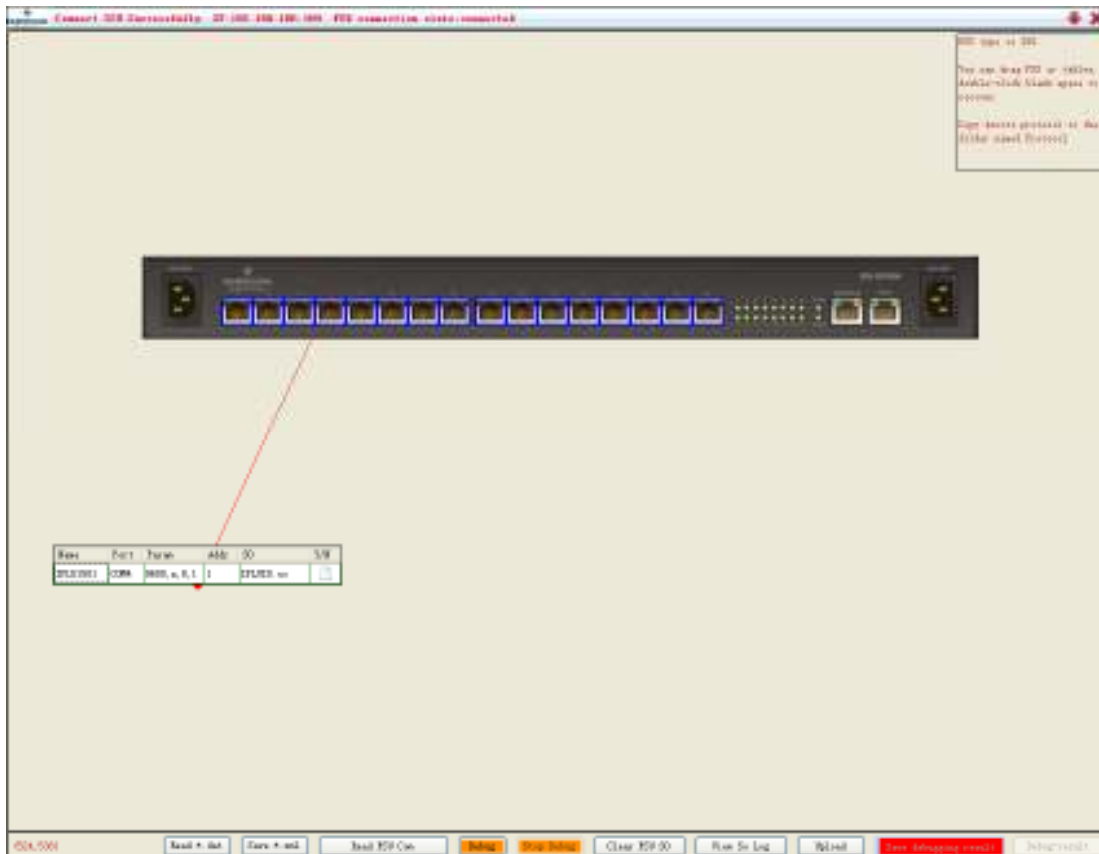
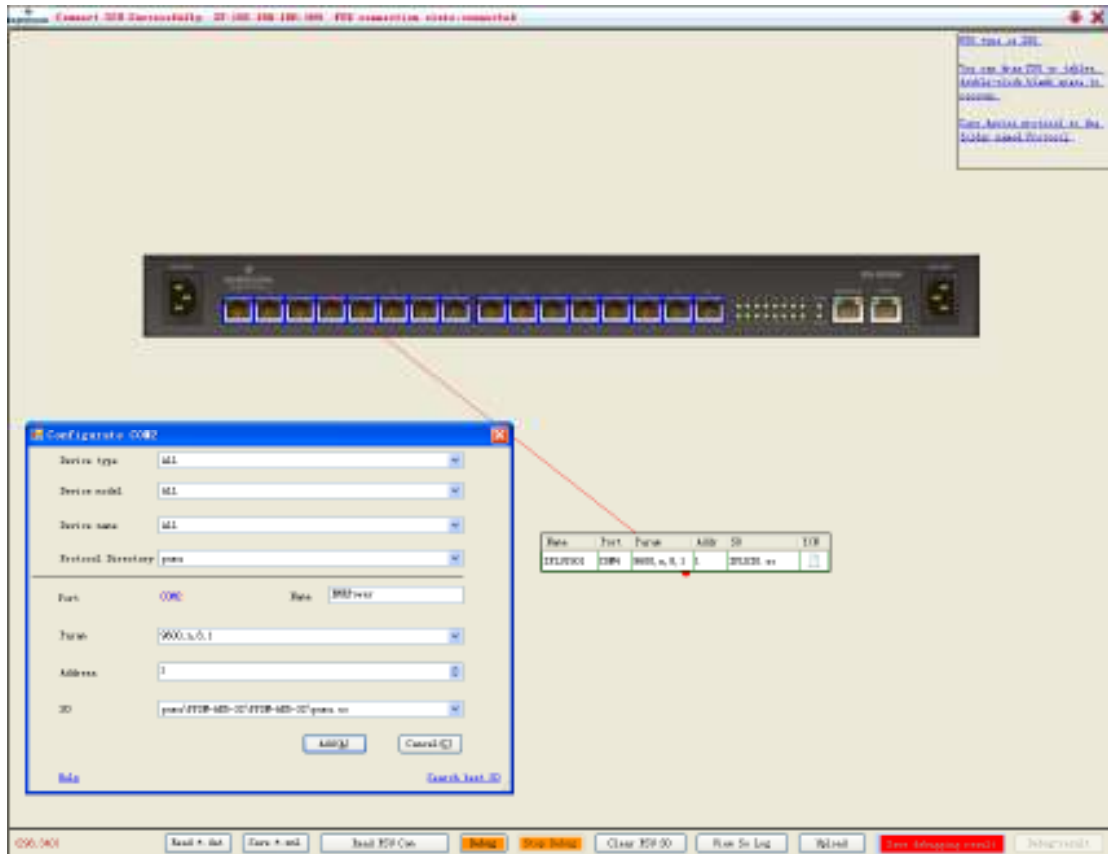
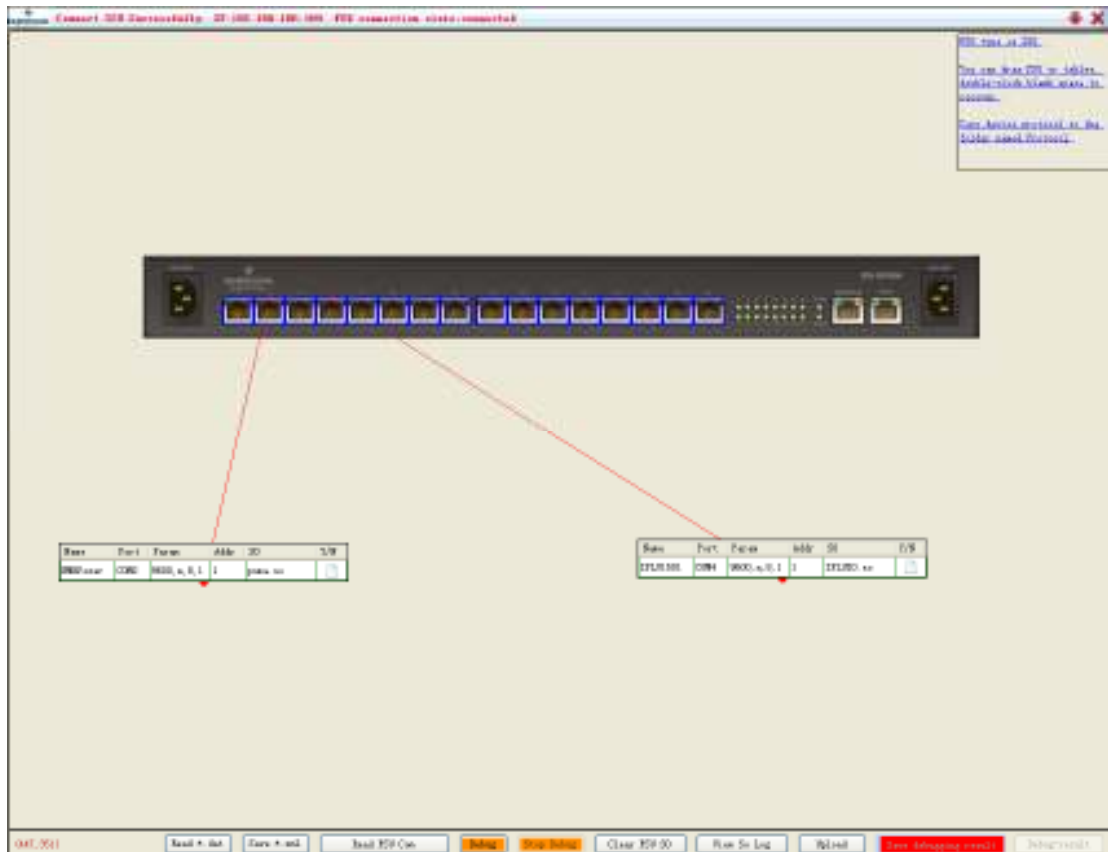

Figure 4-11 Configuration list of newly added intelligent device
Figure 4-12 Configuration window of intelligent device (Emerson power supply)
Figure 4-13 Completing of adding intelligent device
- If the BottomDebugTool software has the protocol directory of this intelligent device, the protocol directory and SO database will be displayed in the **Protocol Directory** and **SO** boxes respectively. Click the **Add (A)** button, and this intelligent device is added under this port. The primary window displays the configuration list of the newly added intelligent device, as shown in Figure 4-11.
5. Follow the same ways to add another intelligent device (take Emerson power supply for example) to COM2, select COM2 in the interface shown in Figure 4-11, a configuration window will pop up automatically, then select the corresponding protocol directory of the connected intelligent device and input the device name, as shown in Figure 4-12.
6. In the window shown in Figure 4-12, Click the **Add (A)** button, and this intelligent device is added under COM2. The primary window displays the configuration list of the newly added intelligent device, as shown in Figure 4-13.